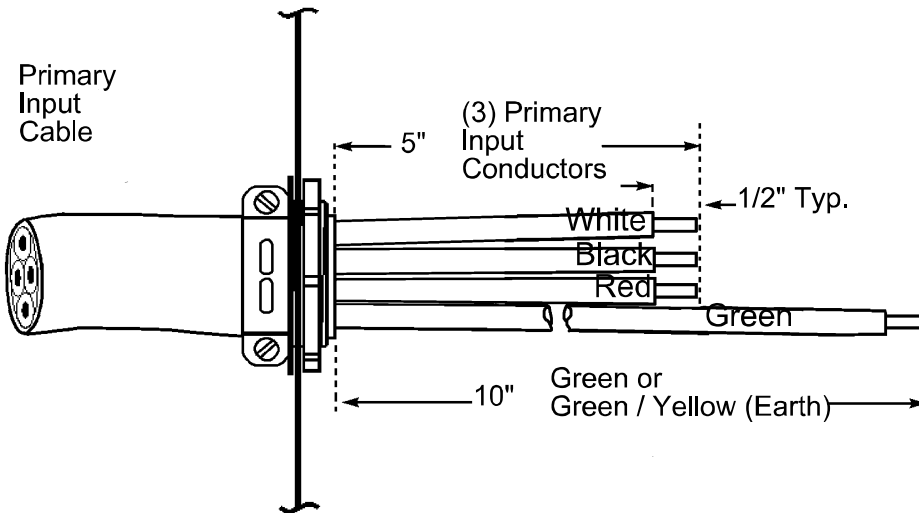

Fig 6 Primary power cable configuration
- Safety codes specify that the Power Cable GROUND wire be the last to break connection should the cable be pulled out of the unit. Be sure to cut and strip wire as shown in Figure 6.